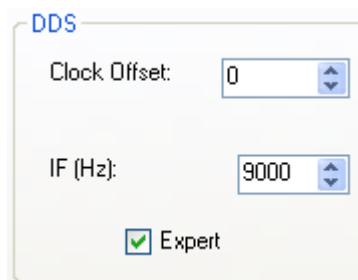

Figure 88: DDS
To reveal the **Clock Offset** and the **IF** controls (Figure 88), check **Expert**. This will show a warning; click **Yes** to proceed.
- To manually adjust the frequency calibration of your radio, start the internal signal generator by opening the Setup Form, Tests Tab (page 155) and checking **Enable HW Signal Generator**. Select **DSB** mode and tune VFO A to the desired frequency. With **SPLT** turned off you should see a -25 dBm signal at the VFO frequency. Change the display to the Phase display and you will see a single dot. Next, go to the Setup Form - General Tab, Hardware Config Sub-Tab and check **Expert** to reveal Figure 88 above. Adjust the Clock Offset control until the dot in the phase display is (almost) standing still. Don't forget to turn the internal signal generator off, when you are done.